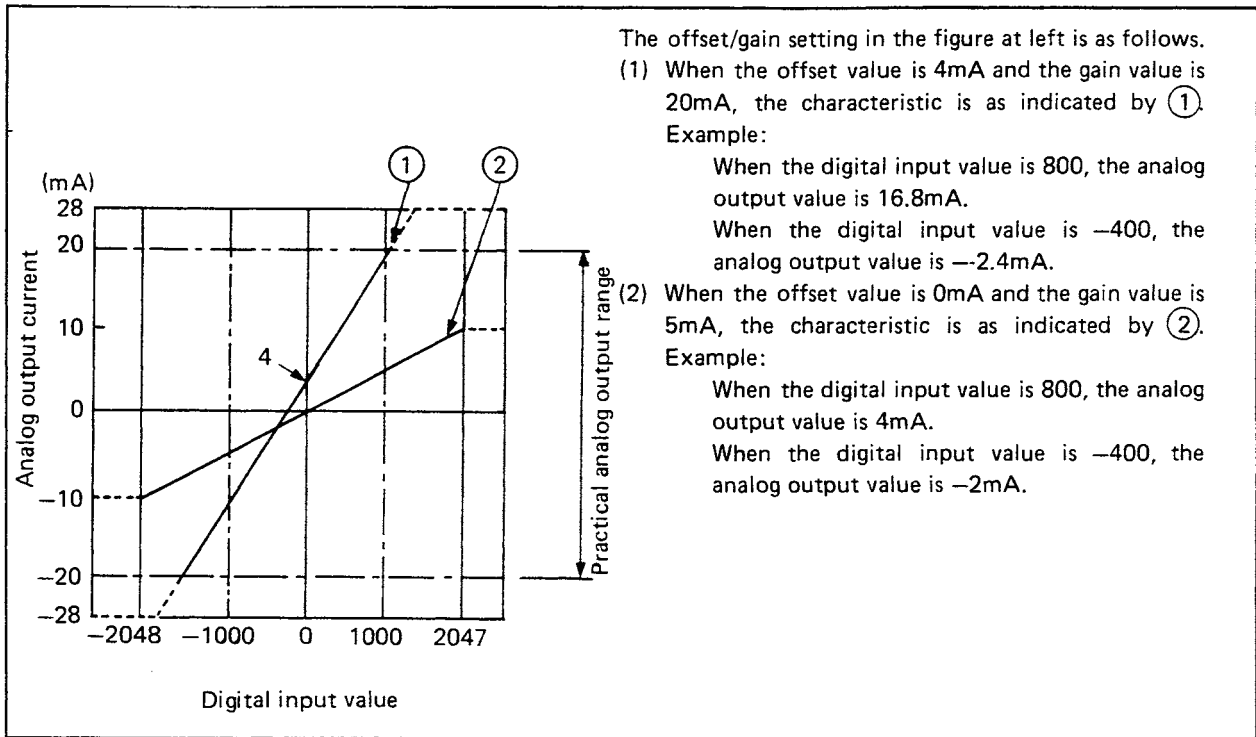

Fig. 2.3 Current Output Characteristic
Fig. 2.3 shows a current output characteristic graph for several offset/gain settings.
- The maximum resolution and overall accuracy are within the range of performance specifications when the working analog current range is -20 to 0 to +20mA. Avoid use outside the above indicated range (dotted line on the current output characteristic graph in Fig. 2.3).